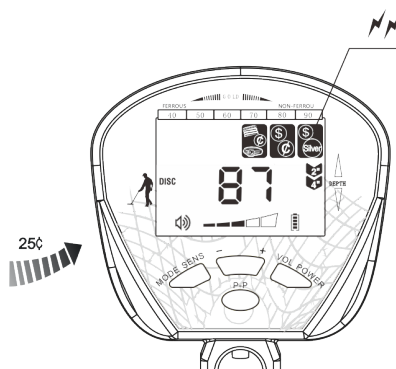

Fig.11
- When sweeping the other three samples, the corresponding target cursor flashes, and the digital cursor shows the corresponding number. (See Fig.11, take 25 ¢ silver coin as an example)